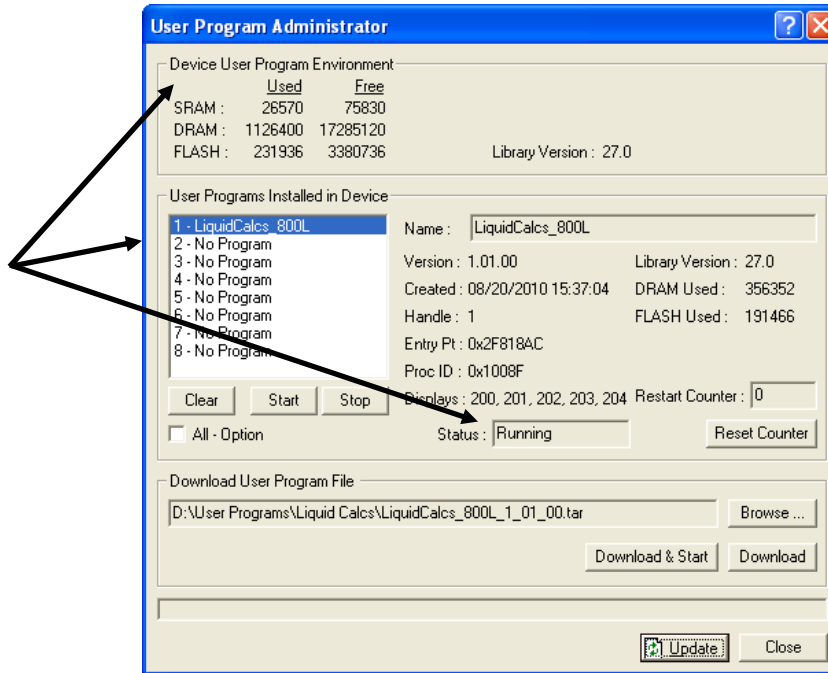

Figure 10. User Program Administrator (with LiquidCalcs Installed)
10. Click **OK**. The User Program Administrator screen displays (see *Figure 10*). Note that: